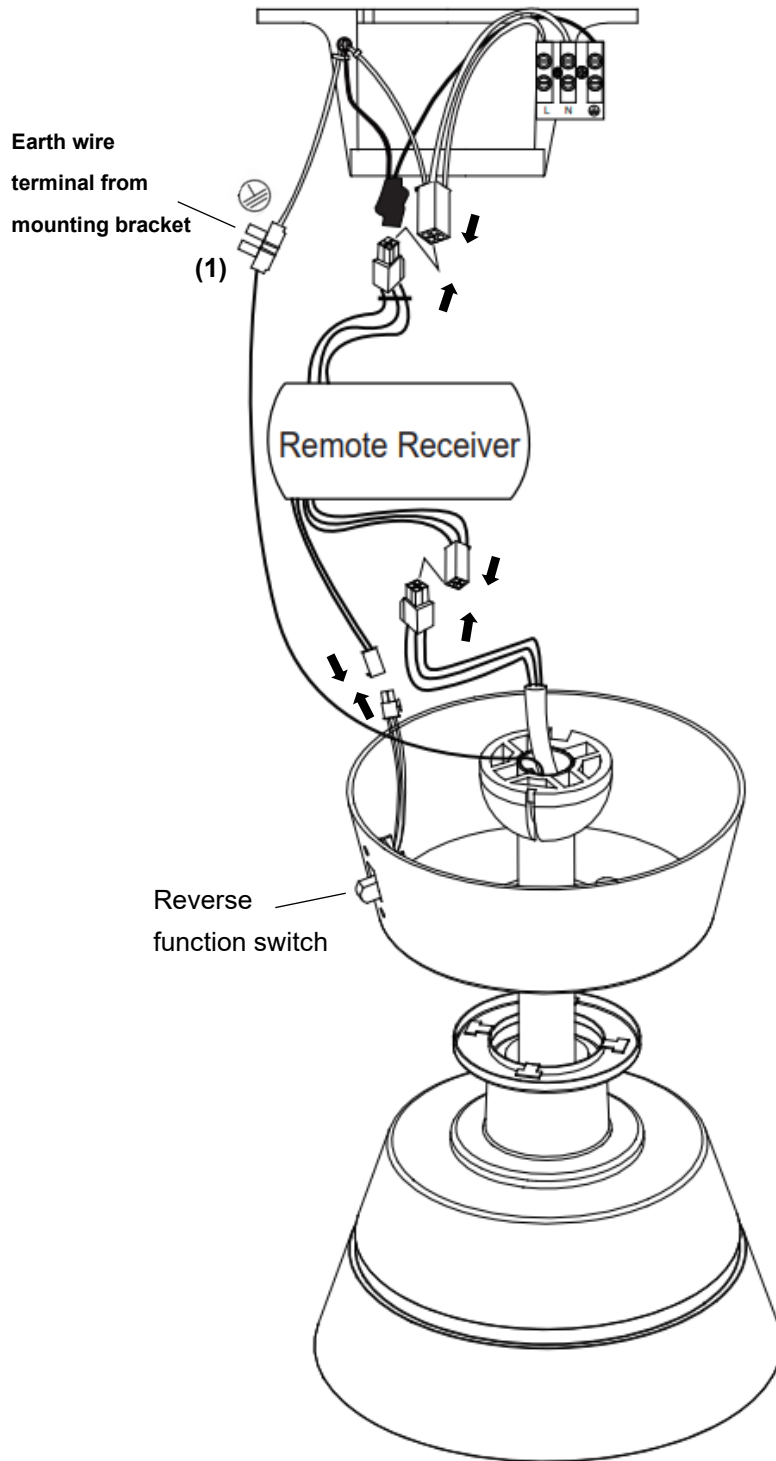

**Fig. 8a**
**FAN MOTOR, MOUNTING BRACKET TERMINAL AND WALL SWITCH WIRING DIAGRAM****From 240V AV supply input and wall switch to mounting bracket terminal block ( Fig. 8a)**